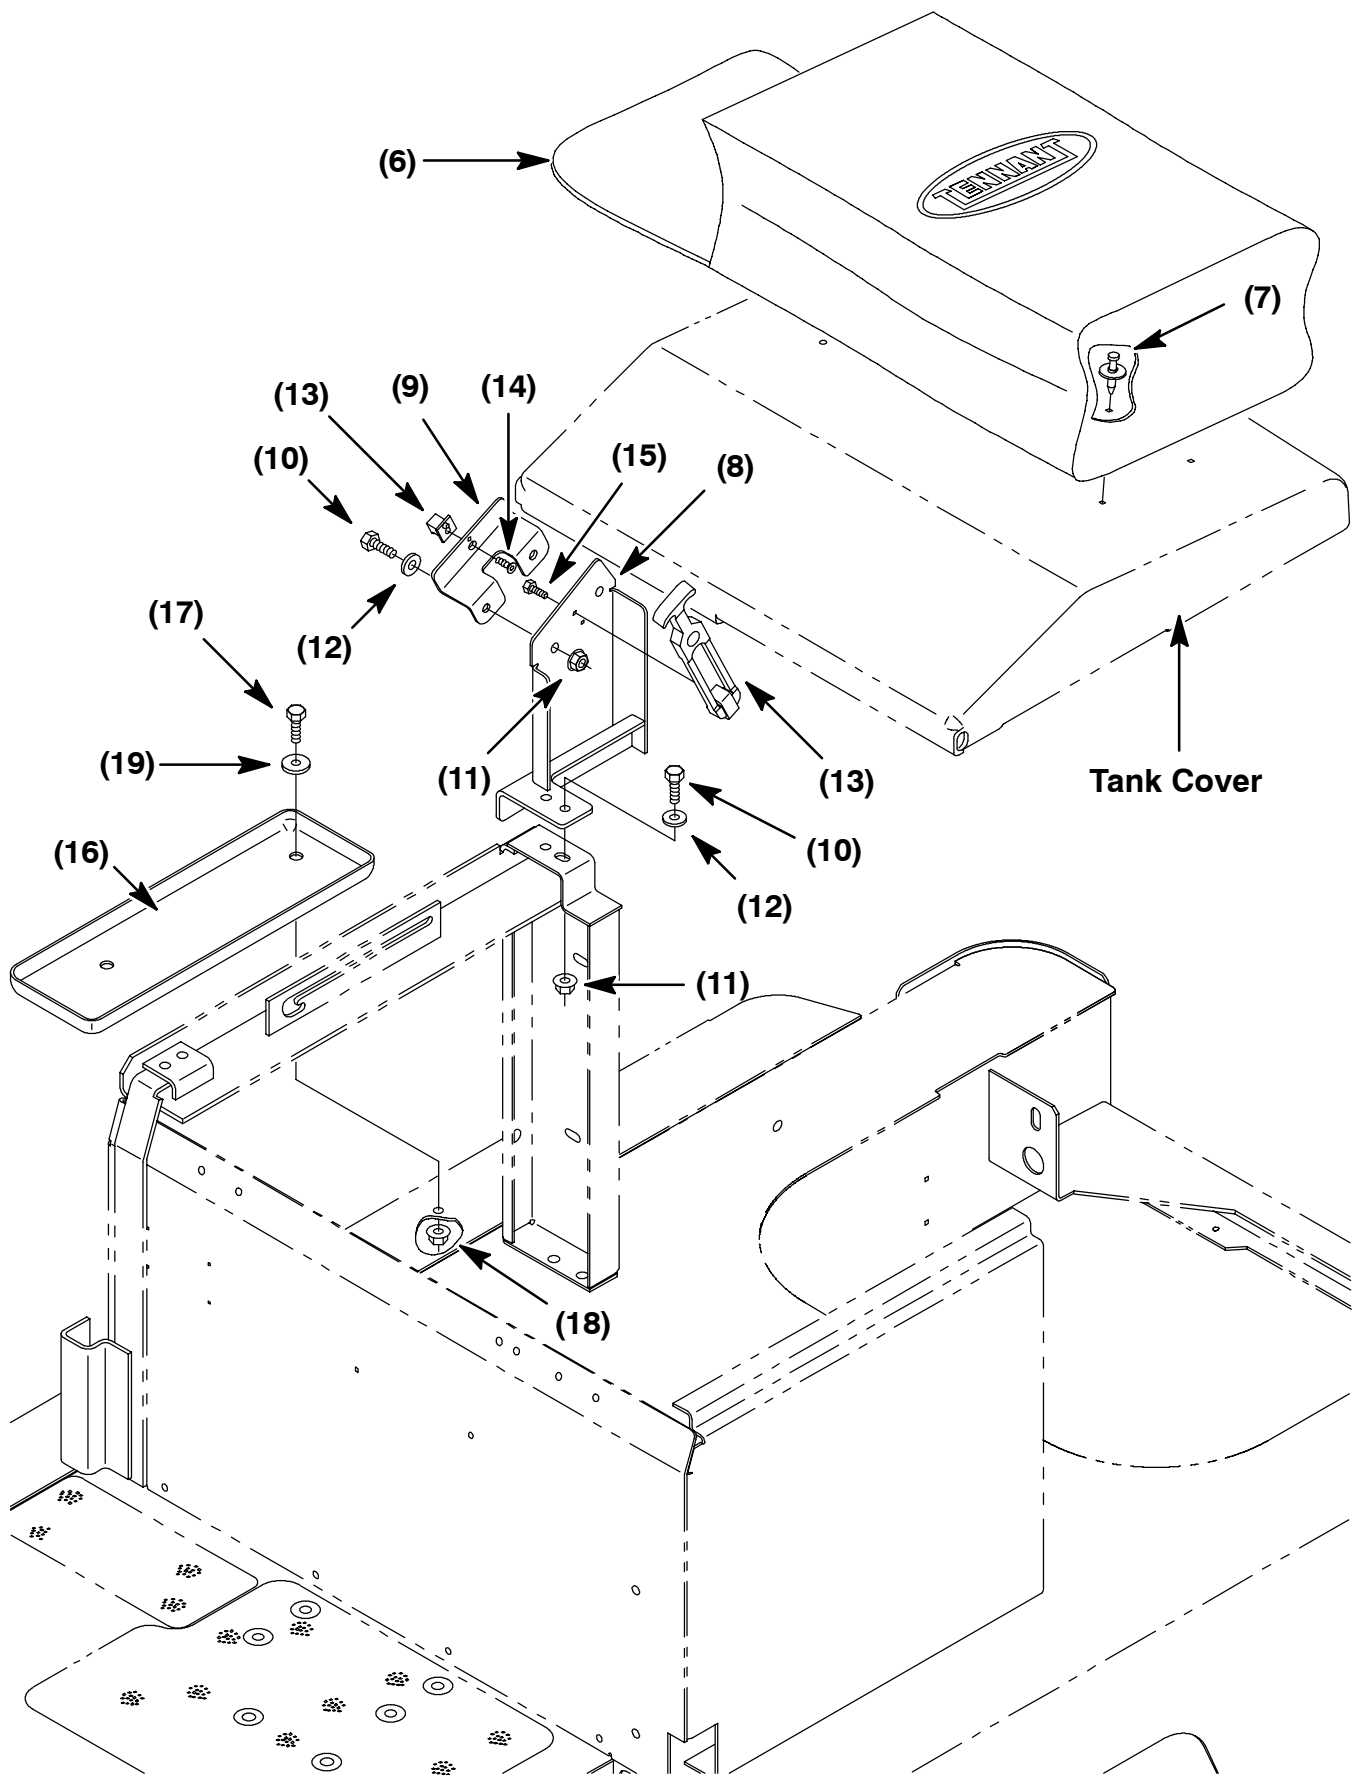

FIG. 3 - Power Wand Mounting Assembly
7. Install the power wand bag (6) onto the top of the tank cover using the four plastic rivets (7). (Refer to FIG. 3)
8. Remove the plastic plugs from the two holes on top of the right side machine bumper. (Refer to FIG. 3)
9. Install the brush tray (16) on the right side bumper using two screws (17), fender washers (19), and nuts (18). Hand tighten. (Refer to FIG. 3)
10. Install the power wand bracket (8) on the seat support frame using two screws (10), washers (12), and nuts (11). Hand tighten. (Refer to FIG. 3)
11. Install the larger part of the flex draw latch (13) onto the bracket (8) using two screws (15). Hand tighten. (Refer to FIG. 3)
12. Install the second bracket (9) onto the first bracket (8) using two screws (10), washers (12), and nuts (11). Hand tighten. (Refer to FIG. 3)
13. Install the smaller part of the flex draw latch (13) onto the bracket (9) using one flat head screw (14). Hand tighten. (Refer to FIG. 3)
26. Install the power wand hose (4) into the bag (6). (Refer to FIG. 3 and 5)
27. Use the draw latch (13) to install the power wand assembly (34) on the side of the machine. (Refer to FIG. 3 and 6)